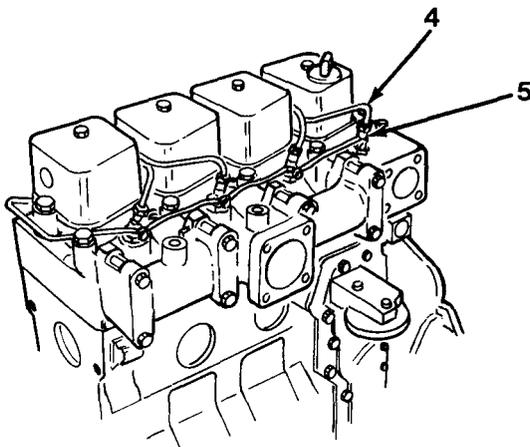

Figure 7-2
3. Using a 17 mm wrench, disconnect four high-pressure tubes (4) from injectors (5, Figure 7-2). Make sure marked tags match proper cylinders.